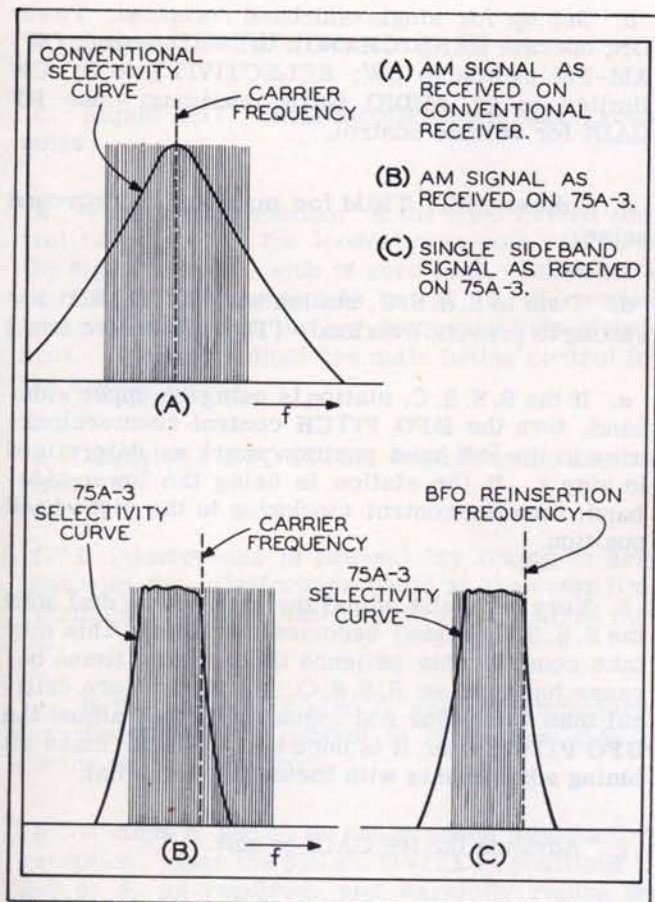

Figure 3-2. Tuning (A) a Conventional Receiver; (B) and (C) the 75A-3, using the 3-kc Mechanical Filter
differ somewhat from those used in tuning a conventional receiver. Because of the flat top and almost vertical sides of the pass band, it is possible to tune either sideband of an AM station and reject the opposite sideband. To get the most out of your 75A-3 take advantage of this unusual feature. Tuning "on the nose" results in loss of the high frequency audio components with, in most cases, all loss of intelligibility. Select the sideband that contains the least objectionable adjacent channel interference. See figure 3-2 (B). Use the following procedure to tune AM signals:
a. Calibrating the BFO. Calibrating the BFO makes it possible to set the receiver up for single sideband reception with minimum delay thereafter. It, in effect, establishes the correct point in the receivers pass-band at which the carrier is being re-inserted. See figure 3-2 (B). We calibrate for both upper and lower sideband operation.
(1) Set up for AM reception but do not turn on the crystal filter. (POWER ON; operate BAND CHANGE to desired band; CW-AM-FM switch to AM AUDIO GAIN maximum - use RF GAIN for volume control; use 3 KC filter).
(2) Find AM station that is free of fading and interference (use the 8R-1 calibrator signal if the receiver is so equipped) and tune to the exact center of the signal (the "S" meter is helpful here). Turn on the BFO (CW-AM-FM control to CW). If the BFO is correctly adjusted the zero beat should occur at or very near the center position of the BFO knob. Turn the BFO off (CW-AM-FM control to AM).
(3) It has been determined that for best results, the reinserted carrier (BFO signal) should be placed 18 to 20 db down on the filter skirt. The point to set the BFO can be found by the following method: Tune in a signal of approximately S-9 either from the calibrator at one of the calibrator check points or from a signal generator. Tune the receiver dial below the signal until the S-meter has dropped 3-S units (18 db). Turn the CW-AM-FM switch to CW. Increase the audio gain and decrease the RF gain to prevent overloading. Zero beat the BFO with the front panel PITCH control. Note the position of the BFO knob.
(4) Return the receiver controls for AM reception, tune the receiver dial above the input signal until the S-meter shows a decrease of 3-S units on this side of the filter curve. Again return to CW reception, zero beat the BFO and note the knob position.